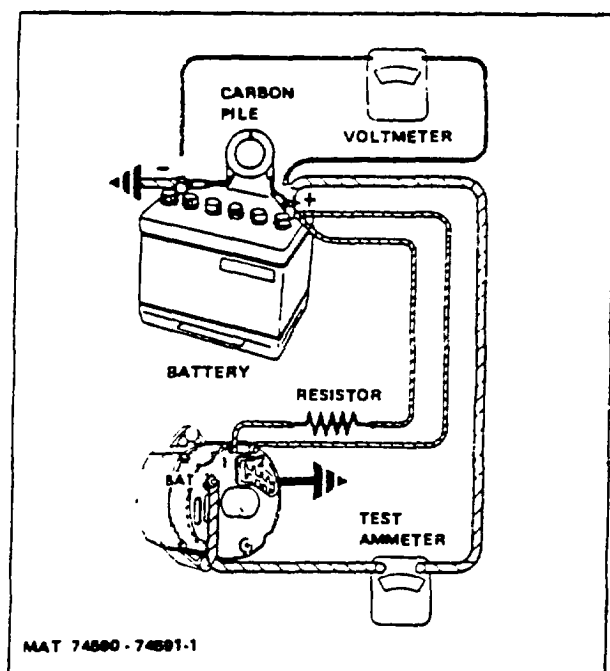

Figure 2-14. Connections for Bench Check of Alternator (Negative ground alternator shown)
- a. Make connections as shown in Figure 2-14, except leave the carbon pile disconnected. **IMPORTANT:** Ground polarity of battery and alternator must be the same. Use a fully charged battery, and 10 ohm resistor rated at 6 watts or more between the alternator No. 1 terminal and the battery.